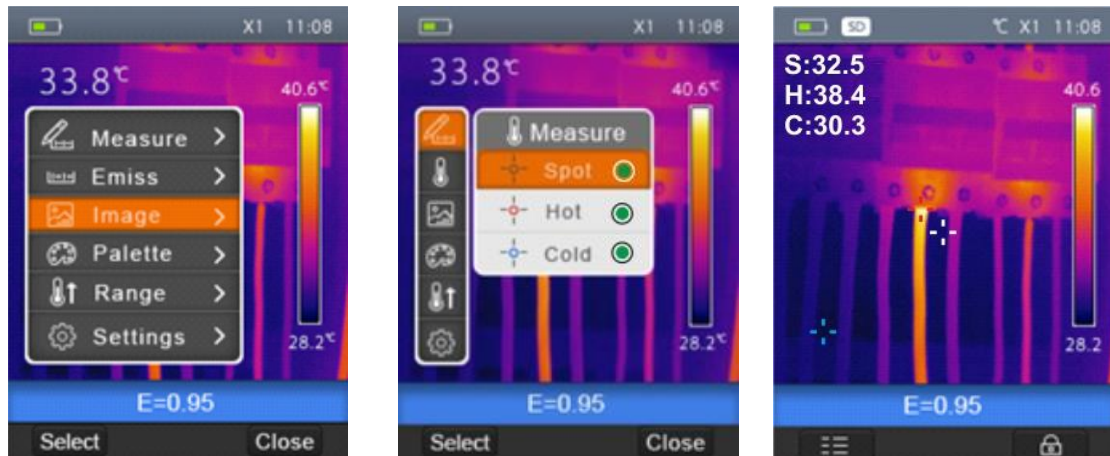

Fig. 17: Setting of measuring cursors
1. Select the item “Measurement” with the keys  or  and press the key . The screen Fig. 17 – Right side is shown on the display.